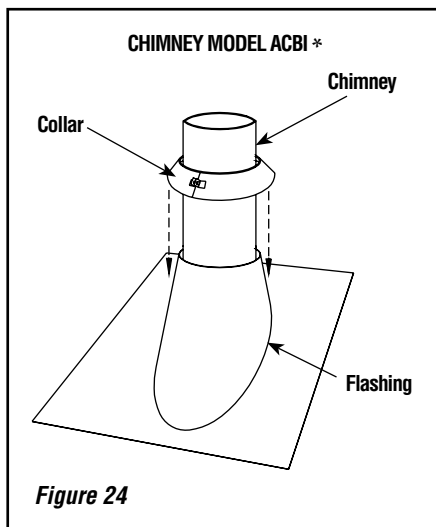

Figure 24
5. Put the roof flashing in place and seal the joint between the roof and the flashing with roofing pitch (see **Figures 24 and 25**). For sloping roofs, place the flashing under the upper shingles and on top of the lower shingles. Nail the flashing to the roof, using roofing nails.